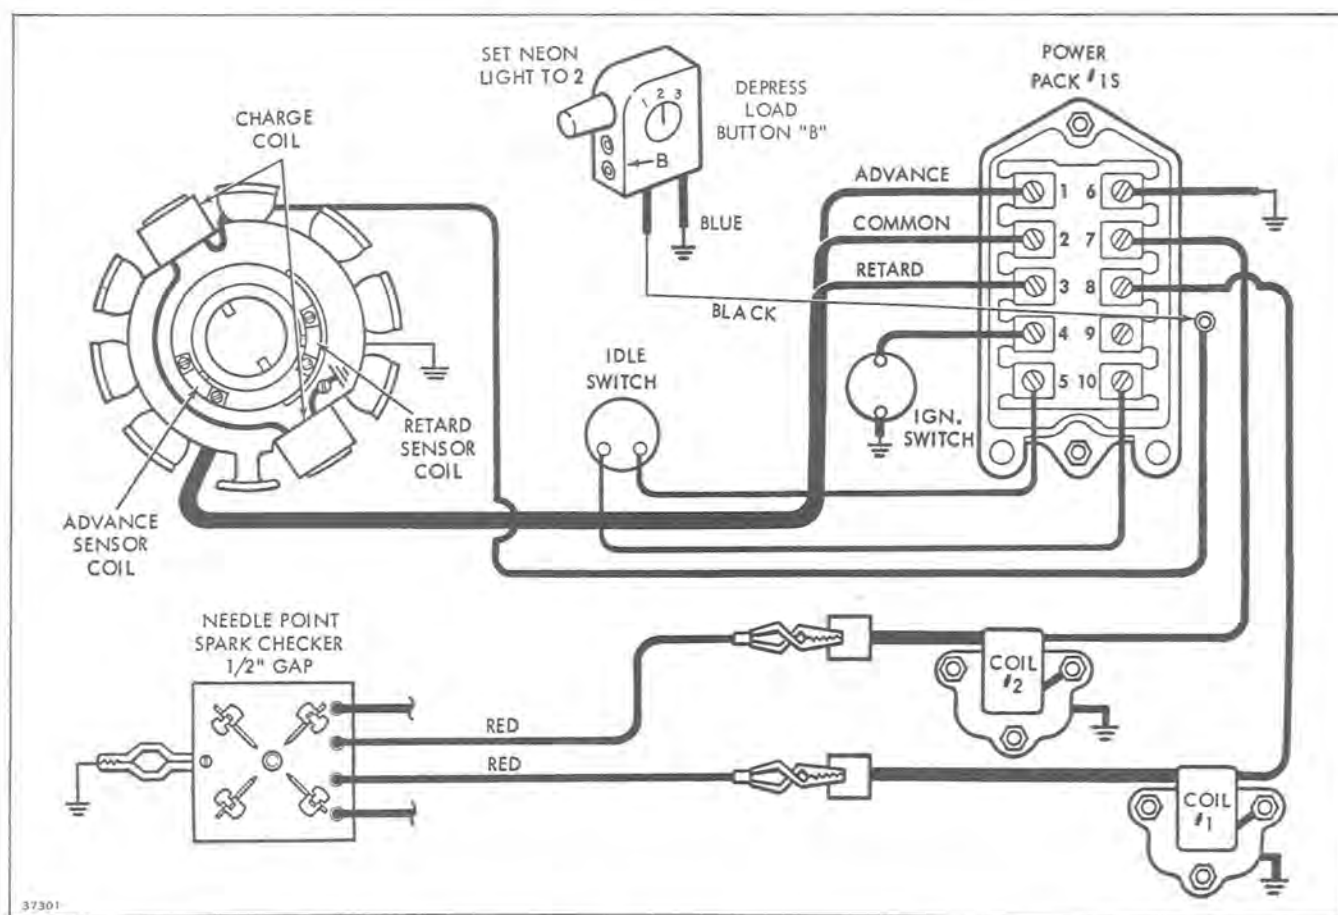

Figure 7-16
- B. Use Neon tester S80 or M80. Connect neon tester black lead to charge coil brown/white stripe lead and tester blue lead to engine ground. See Figure 7-16.
- D. Crank engine with electric starter or manual starter (with ignition switch in "RUN" position) and observe neon tester light. See Figure 7-16.